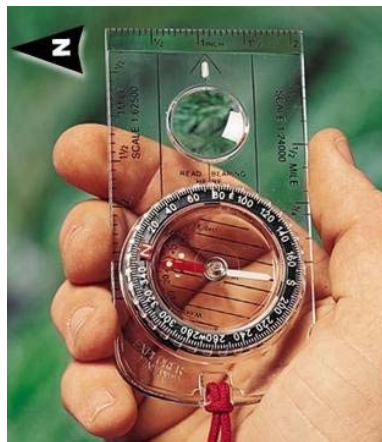

Figure 10
3. Hold the compass level in front of you with the sight line pointing straight ahead. Fig 10